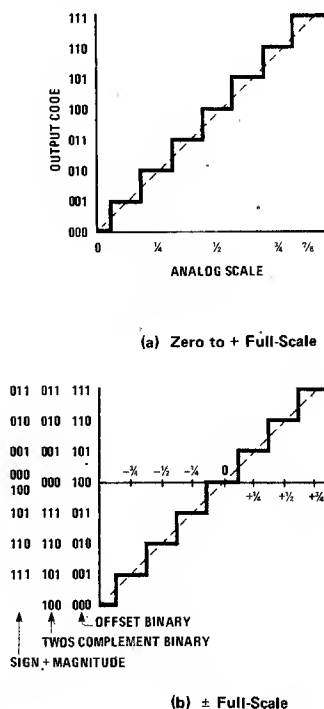

FIGURE 11. ADC Codes
**Offset Binary** is a natural binary code except that it is offset (usually  $\frac{1}{2}$  scale) in order to represent negative and positive values. Maximum negative scale is represented to be all "zeros" while maximum positive scale is represented as all "ones." Zero scale (actually center scale) is then represented as a leading "one" and all remaining "zeros." The comparison with binary is shown in figure 11.
**Twos Complement Binary** is an alternate and more widely used code to represent negative values. With this code, zero and positive values are represented as in natural binary while all negative values are represented in a twos complement form. That is, the twos complement of a number represents a negative value so that interface to a computer or microprocessor is simplified. The twos complement is formed by complementing each bit and then adding a 1; any overflow is neglected. The decimal number -8 is represented in twos complement as follows: start with binary code of decimal 8 (off scale for  $\pm$  representation in 4 bits so not a valid code in the  $\pm$  scale of 4 bits) which is 1000; complement it to 0111; add 0001 to get 1000. The comparison with offset binary is shown in figure 11. Note that the offset binary representation of the  $\pm$  scale differs from the twos complement representation only in that the MSB is complemented. The conversion from offset binary to twos complement only requires that the MSB be inverted.
**Sign Plus Magnitude** coding contains polarity information in the MSB (MSB = 1 indicates a negative sign); all other bits represent magnitude only. This code is compared to offset binary and twos complement in figure 11. Note that one code is used up in providing a double code for zero. Sign plus magnitude code is used in certain instrument and audio systems; its advantage is that only one bit need be changed for small scale changes in the vicinity of zero, and plus and minus scales are symmetrical. A DVM might be an example of its use.